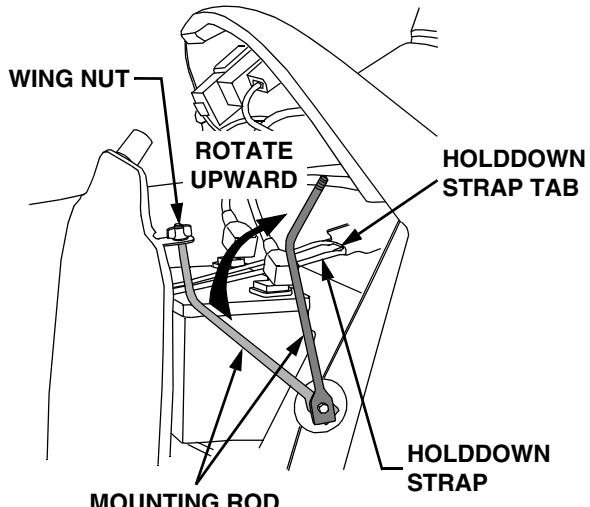

Figure 26
2. Remove the wing nut securing the LH mounting rod to the mounting tab on the left side of the bulkhead (Refer to Figure 26). Pull the rod downward from the bulkhead tab.
3. Rotate the mounting rod fully upward toward the dash panel to provide clearance for battery removal (Refer to Figure 26).
10. Rotate the mounting rod downward and insert through the bottom of the hole in the bulkhead mounting tab (Refer to Figure 26).